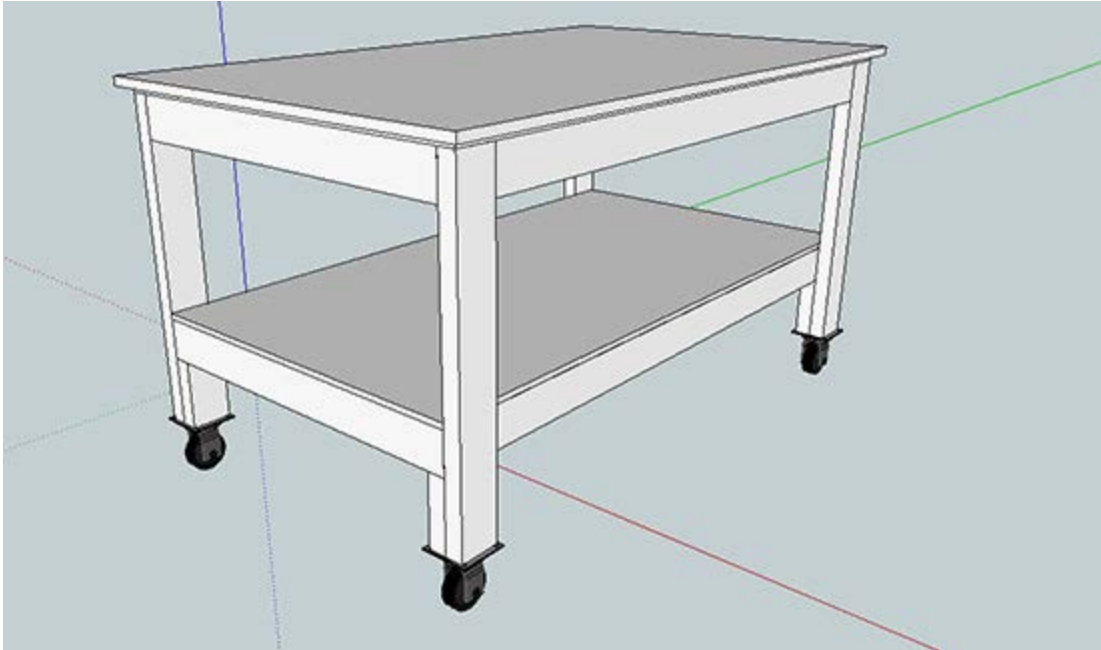

Figure 9: Completed Table with Wheels
11. If you opted for the wheels, they can be screwed into the legs from below. Have someone help you lift or tilt the table to get access to the bottom of the legs (Figure 9).